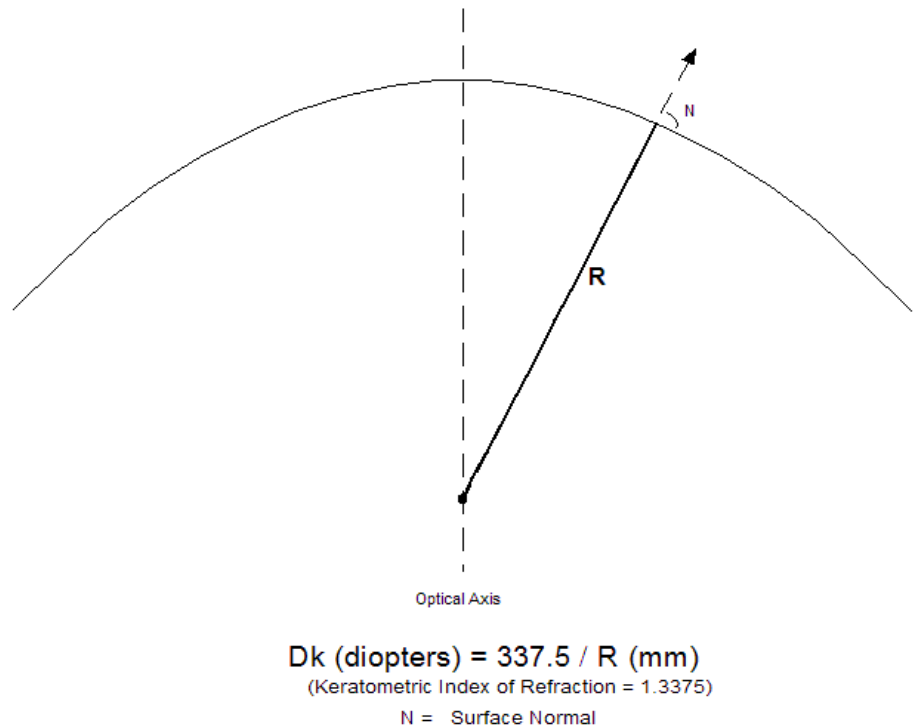

Figure 6-1 Axial Curvature / Power
The distance (R) from the point of interest on the corneal surface to the optical axis defines the axial radius of curvature (Figure 6-1).